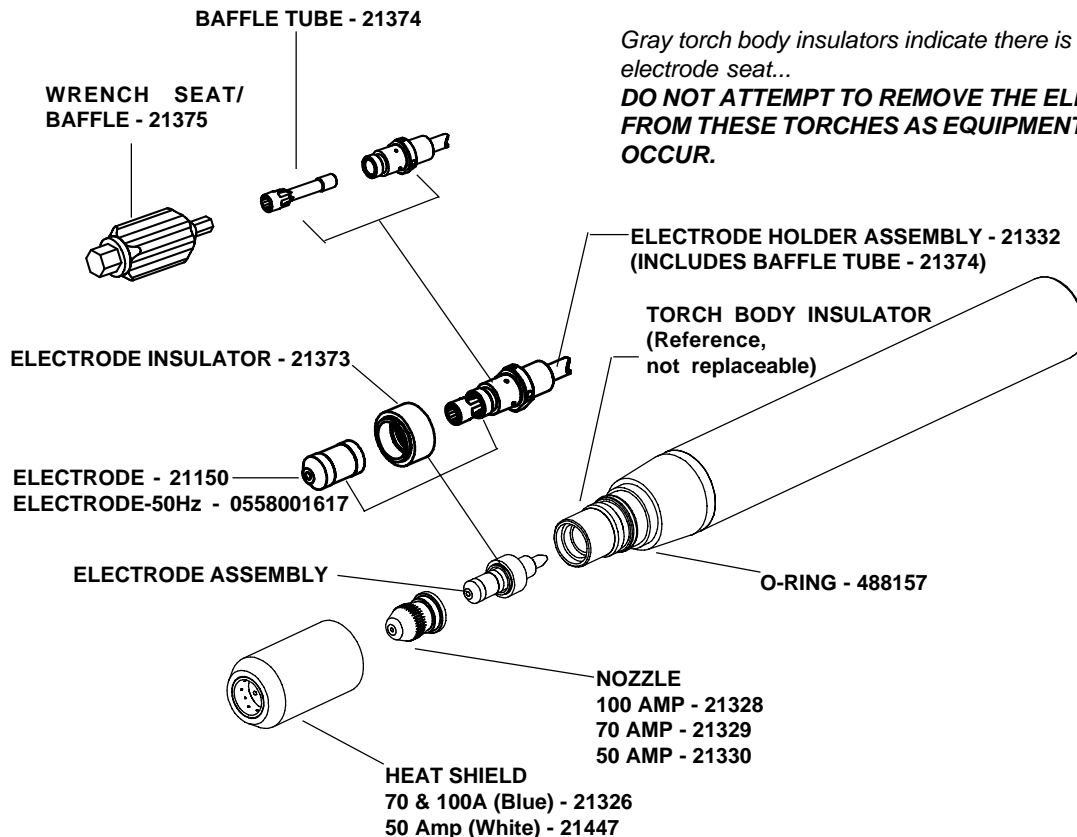

Fig. 2 - Front End Assembly
3. Install the nozzle onto the electrode assembly by inserting the small shoulder on the electrode insulator into the nozzle's rear opening. Place the nozzle and electrode assembly into the heat shield as shown in Fig 2. If the front end of the torch is facing down as normally in a setup, the nozzle and electrode assembly can be stacked in the heat shield and then assembled to the torch. Be sure to use the proper heat shield and nozzle combination as noted in Fig. 2.